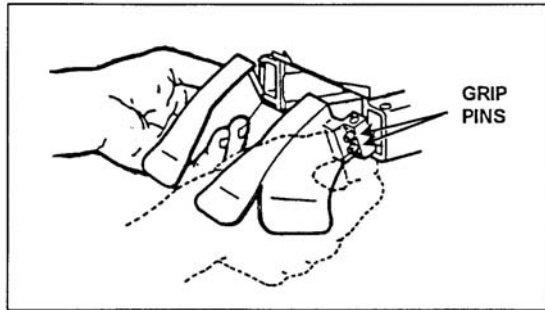

Figure 071-030-0001-1. Removal of feed throat assembly
- a. Place the safe/fire switch in the safe (S) position. Ensure that the bolt is forward.
- a. Remove the feed throat assembly (figure 071-030-0001-1). Squeeze the two sets of grip pins together and pull them straight out.